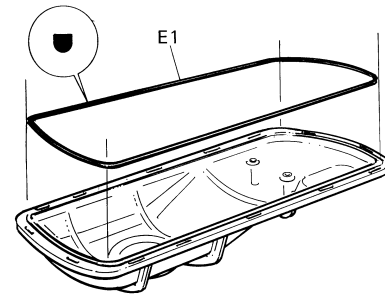

FIGURE 21
11. Wash the bowl and cover carefully with water and mild detergent, rinse them well, and replace them, making sure the sealing strip (E1) is positioned correctly between the cover and the bowl. To guarantee the seal, the rounded part of the said sealing strip (as shown in FIGURE 21) must be facing the cover.